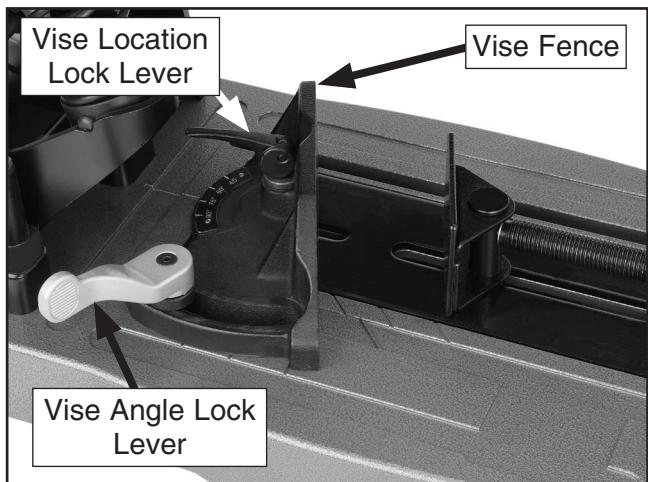

Figure 7. Vise fence.
2. Loosen the vise angle lock lever and the vise location lock lever (**Figure 7**).